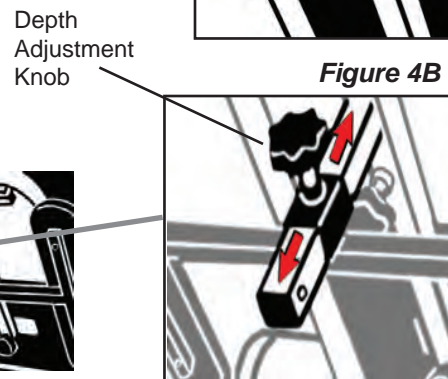

Figure 4B
- Depth: Loosen the Arm Rest Depth Adjustment Knob. Adjust the Arm Rest Frame to a comfortable position for your patient. (See Figure 4B) Retighten the knob.